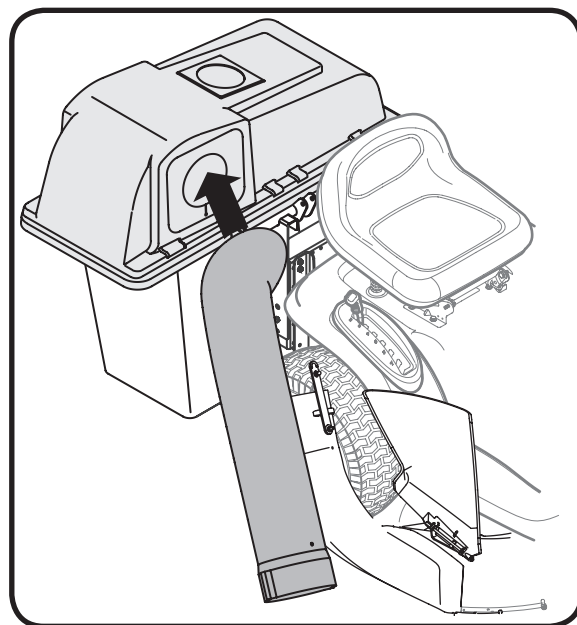

Figure 5-6
8. Insert the curved end of chute tube into the hole in the grass bag cover. See Fig. 5-6.